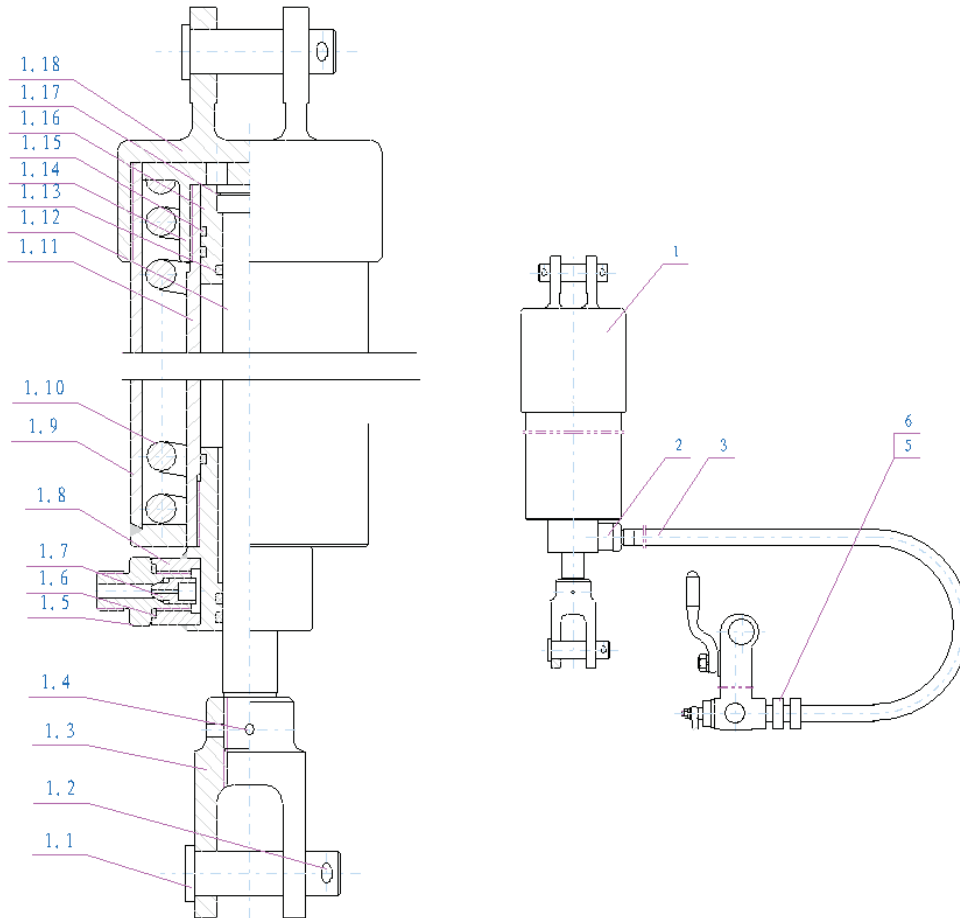

Fig.7 Hydraulic Bucket Assembly
2.3.3 Hydraulic Bucket (Fig.7 either hydraulic bucket or spring bucket may be equipped according to customers' requirements)